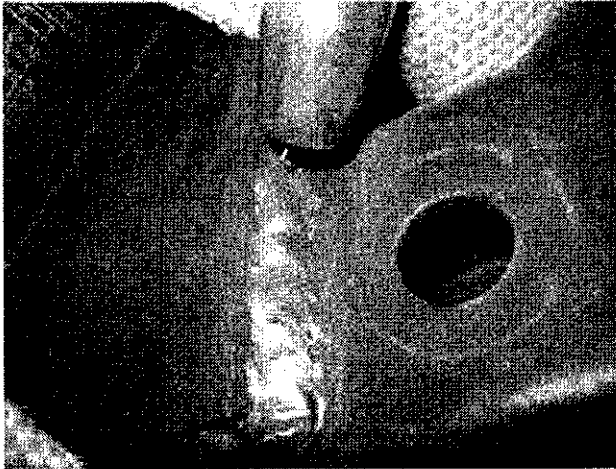

Figure 5
2. Weld front of trailer hitch (Figures 5 and 6).